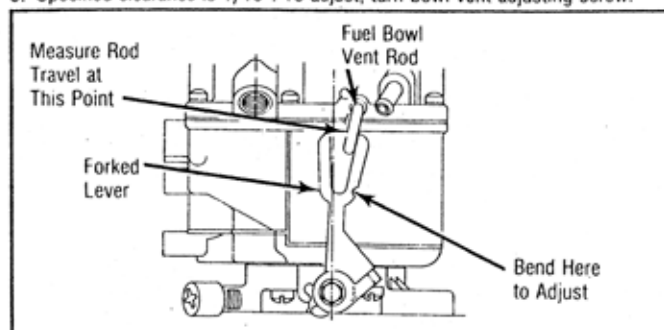

Fig. 6 Bowl Vent Adjustment (Late Forked Lever Type)
1. Disconnect canister hose at carburetor. Connect a length of hose to fitting. Position fast idle screw on high cam step. See Fig. 6.
1. Open throttle until forked lever is not touching bowl vent rod. Close throttle lever to idle position. Measure travel of bowl vent rod at point shown. See Fig. 6.